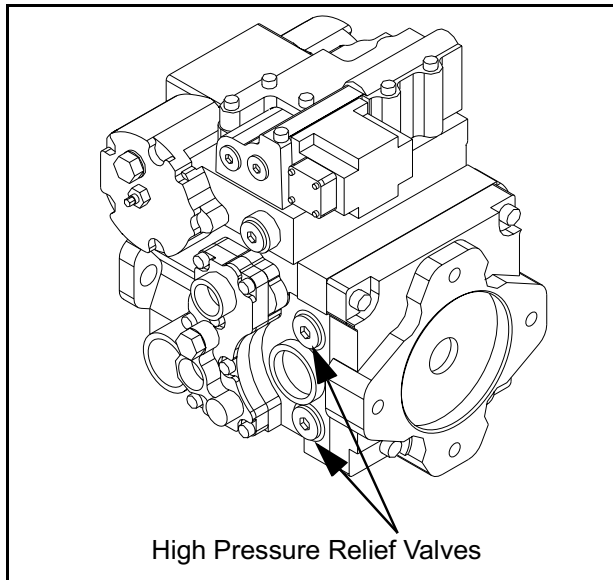

Figure 5 - 6 High Pressure Relief Valves
- 6) The pressure gauges should read 0 psi. Move the Travel Lever/Switch on the operators console to the Forward direction. Slowly increase the speed setting on the Speed Dial. The pressure readings on the pressure gauges should rise slowly and remain steady when it reaches the relief setting. If the pressure reading does not change, move the Travel Lever/Switch on the operators console to the reverse direction and repeat this step. If the pressure is significantly higher or lower than 5550 psi, the pressure relief valve is defective and must be replaced. (Figure 5 - 6)